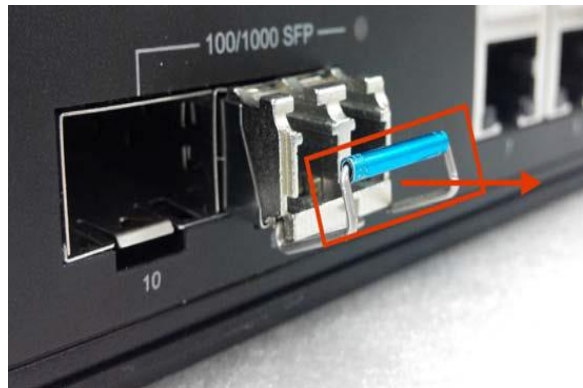

Figure 2.11 – Pull Out from SFP Slot
- **Step 2** - Push down the metal clasp and pull the transceiver out by the plastic part as shown below in *Figure 2.11*.